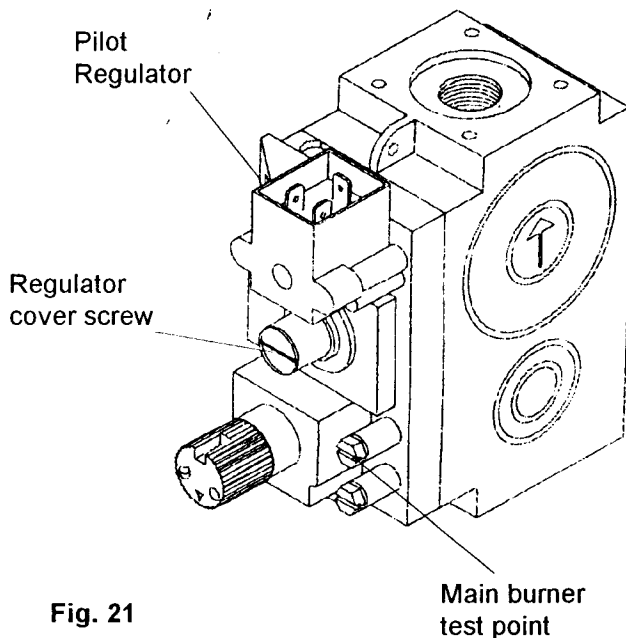

Fig. 21
6.5.7 Refer to fig. 19 and check that the pilot flame is correct. If it is necessary to adjust the flame refer to cl. 5.7.2 for access instructions. Fig. 21 shows the location of the adjustment screw. Turning clockwise decreases flame and vice versa.
6.7.3 Locate the main burner pressure test point (Fig. 21) and slacken the screw in an anti-clockwise direction. Attach a suitable pressure gauge. Turn on the boiler for central heating.
If the pressure is wrong or if it is required lower it can be adjusted. Identify the regulating screw on the front of the gas valve (Fig. 21), turning the regulating screw clockwise will increase the pressure or turning the screw anti-clockwise will decrease the gas pressure. Once this pressure has been fixed it should be indelibly recorded on the label provided and stuck next to the data badge. This is to ensure that the burner can be reset when any service operation involves alteration of burner settings.